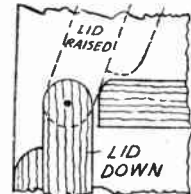

Fig. 4—Section, showing position of raised lid dotted
It will readily be understood from this diagram also, and from the enlarged section Fig. 4, how the door must be prepared for hinging by means of screws
Some workers may choose to use dowel pins instead of the screws, the pins being carefully driven into 1/4in. holes after being dipped into glue. The dowels should be of tough wood and the outside surfaces at the ends nicely cleaned off at completion. The top edges of the supports (C) should be coated with glue before the shelves are inserted. Round off the front top edge of shelf (E) to allow the door to clear it when the latter is thrown back, see Fig. 4.
rounded to an exact semi-circle as in the enlarged section Fig. 4.
This shaping allows the door proper clearance for the shelf against which it is fixed. Note too, the cross rails, measuring 15ins. long and 1 1/2ins. wide are each differently placed on the door, the lower one being close against the lower edge while the upper one must be 1in. down from the top as seen in Fig. 4.